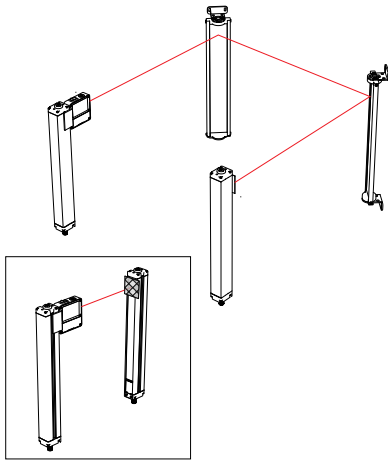

Figure 12. Optical alignment using the LAT-1-SS
**Note:** A LAT-1-SS Laser Alignment Tool is very helpful by providing a visible red dot along the optical axis. See Figure 12 on page 35 and Banner Safety Applications Note SA104 (p/n 57477) for further information.